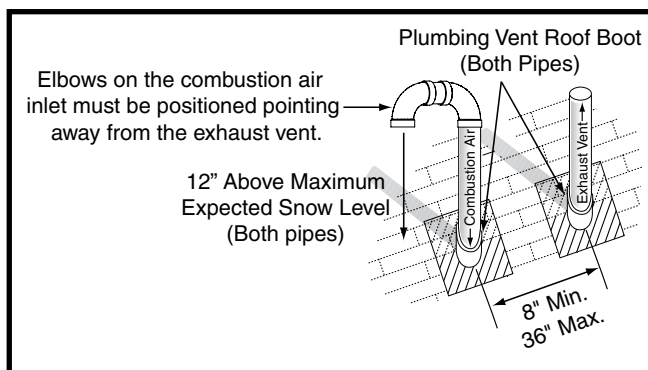

Figure 4. Vertical Vent Termination
Termination spacing requirements from the roof and from each other are shown in Figure 4. The roof penetration must be properly flashed and waterproofed with a plumbing roof boot or equivalent flashing. Vent and combustion air piping may be installed in an existing chimney which is not in use provided that:
- The termination clearances shown in Figure 4 are maintained.